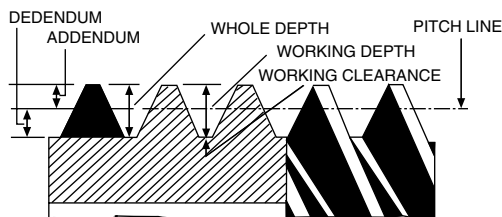

Figure 4.3A, Drawing of Worm showing cross section and full view of the thread
- Addendum – the part of the thread from the pitch line of the worm to the outer edge of the thread. (See Figure 4.3A)
- Dedendum – the part of the thread from the pitch line of the worm to the bottom of the thread. The dedendum is equal to one addendum plus the working clearance (defined below). (See Figure 4.3A)
- Working Clearance – the distance from the working depth (defined below) to the bottom of the thread. (See Figure 4.3A)
- Working Depth – the space occupied by the mating worm gear tooth. It is equal to twice the addendum. (See Figure 4.3A)